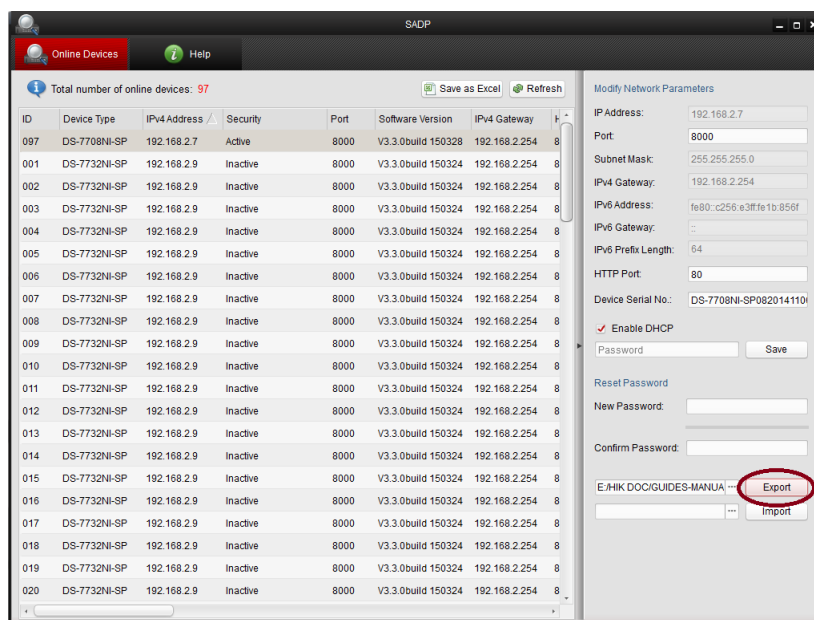

Figure 118 Click [Export] and a file named “DeviceKey.xml” will be generated
4. Click **[Export]** (Figure 118) and a file named “DeviceKey.xml” will be generated.